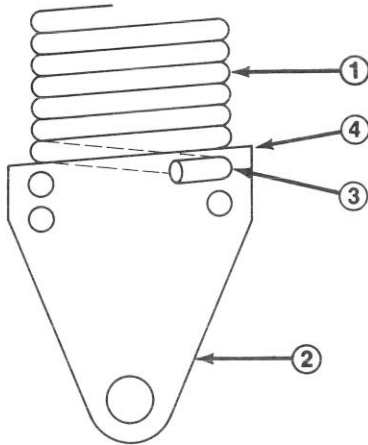

Figure 11
1. Position end of spring through top hole on high side of spring end (Fig. 11).
3. Mount spring end to cutting unit gear box base with shoulder bolt and flange nut (Fig. 11). Hook end of the spring should be offset toward rear of cutting unit.